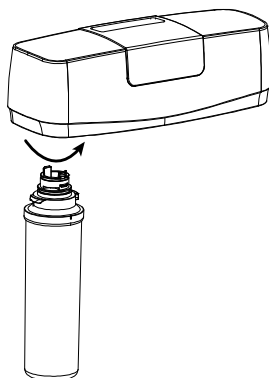
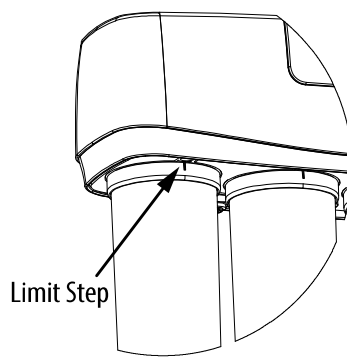

Fig 3
Fig 4
1. Install the PP filter onto the manifold as Fig 3, at the end of rotation, make sure the filter pass over a limit step and situated in the middle(Fig 4).